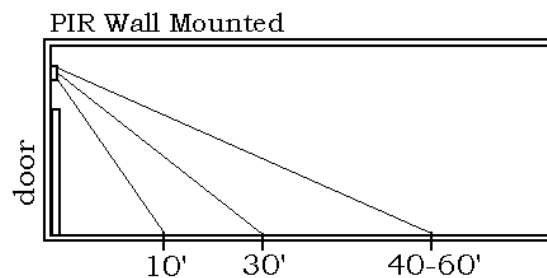

Figure 10.3 Wall-mounted PIR
Wall mounting the PIR may result in detection beyond the desired area (Figure 10.3). If you decide to wall mount the PIR, “mask” the PIR to reduce the range.
1. The PIR has 3 “beams.” The low beam reaches about 10’, the middle beam reaches about 30’, and the high beam can reach 40-60’ (see Figure 10.3). “Masking” a PIR means covering one or more of the beams to reduce the PIR’s range.